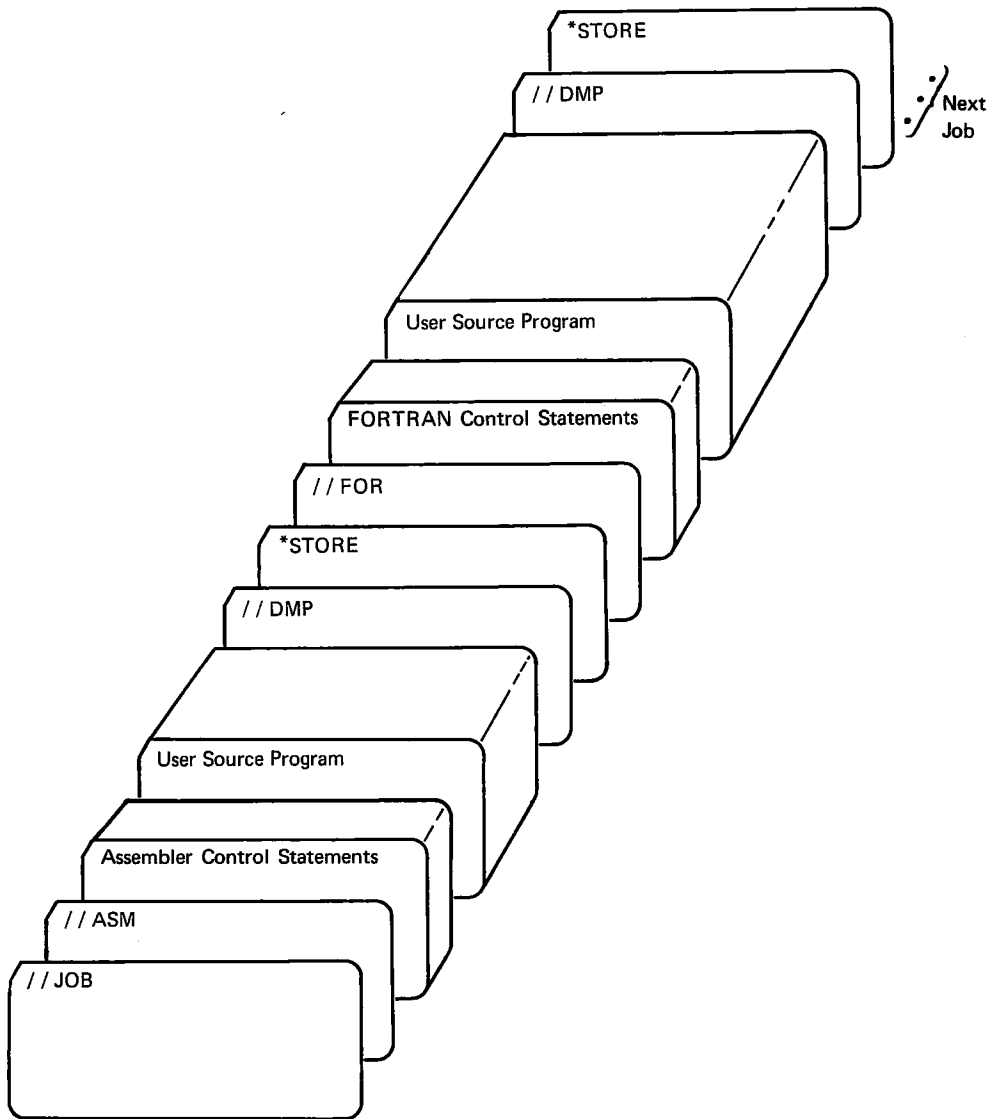

Figure 6. Assemble, Compile, and Store Executive Subroutines on Disk
To complete the generation of your real-time system, you assemble or compile and store any subroutines to be included in the Executive, build your Executive, and assemble or compile and build your process coreloads. The sequences of control statements necessary to complete phase 5 are illustrated in Figures 6 and 7. Refer to IBM 1800 Multiprogramming Executive Operating System Programmer's Guide, Order Number GC26-3720, for details on how to complete and use each of these control statements.
1. Place the completed control statements and source decks in the 1442 hopper in the order illustrated in Figure 6.